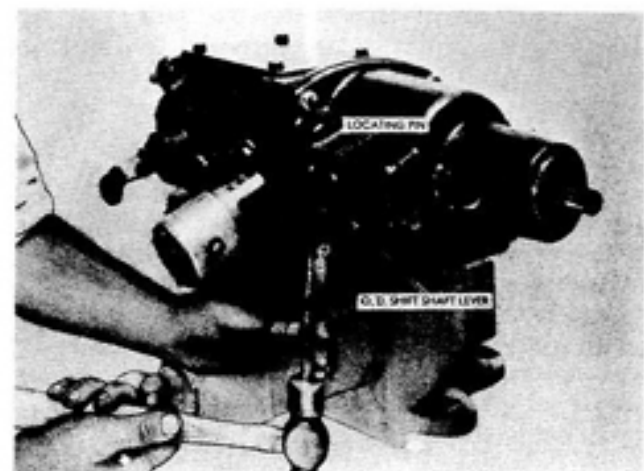

Figure 11.
d. Drive out the tapered pin which holds the manual control shaft in the overdrive case (see Fig. 11). Pull out the control shaft as far as possible to disengage the operating cam from the slotted shift rail.